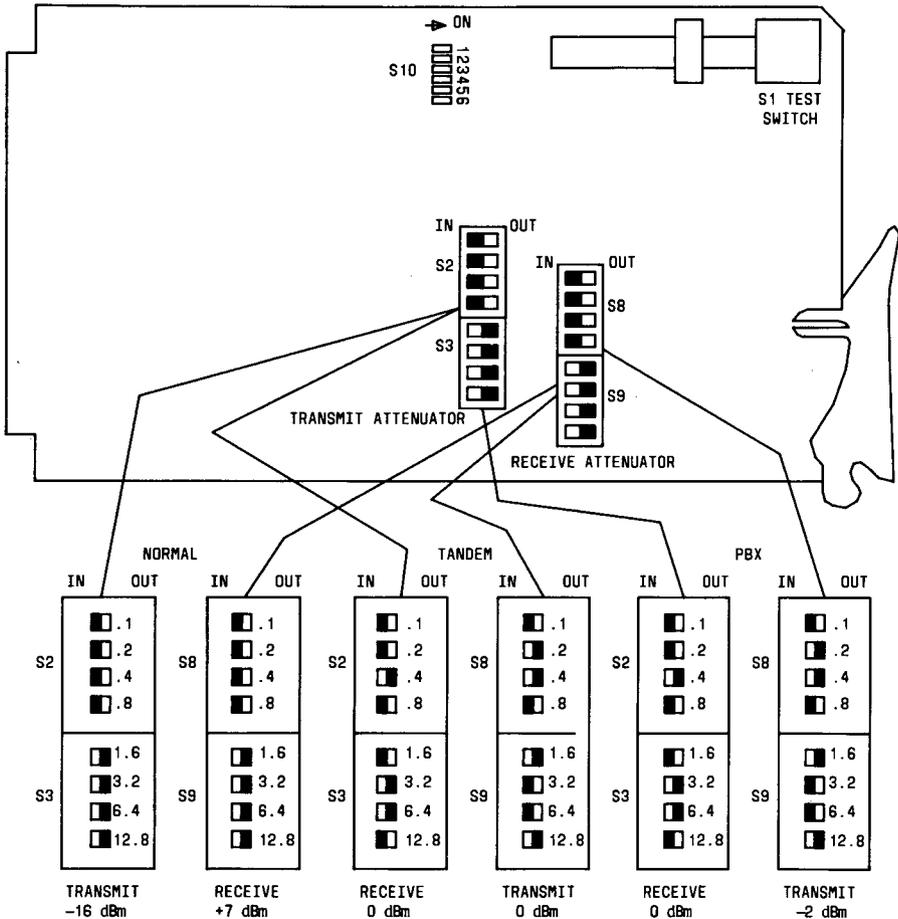

Figure 89. 30003-002 4-Wire E&M Channel Unit
- a. For No. 30003-002 (Figure 89), insert a 1004-Hz signal at the proper system level into the channel. Connect a dB meter (600-ohm bridged) to J1. Set switches S2 and S3 as required to obtain a meter reading of +.84.
- a. For No. 30003-002 (Figure 89), connect a dB meter (600-ohm bridged) to J2. From a distant end transmitter, transmit a 1004-Hz signal at the proper system level. Set the switches on S8 and S9 to achieve the proper system level.